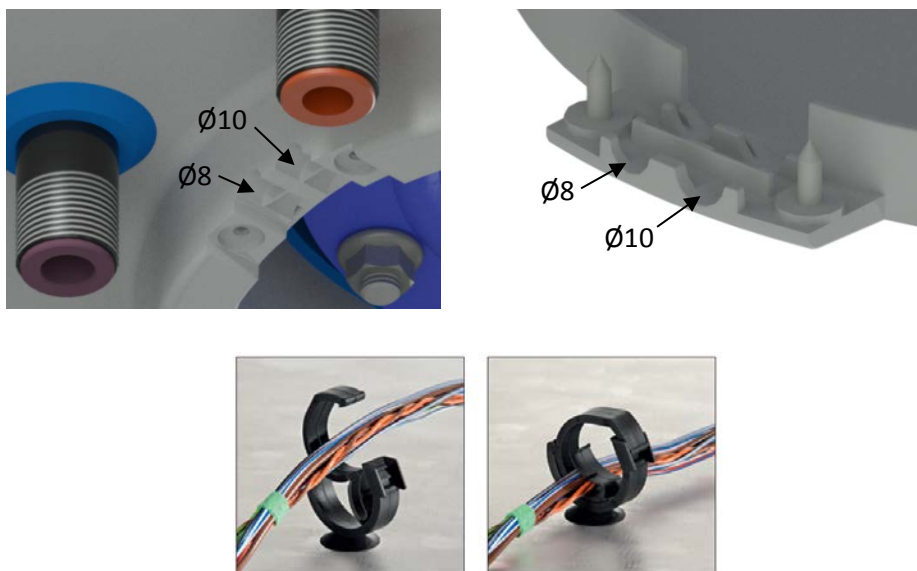
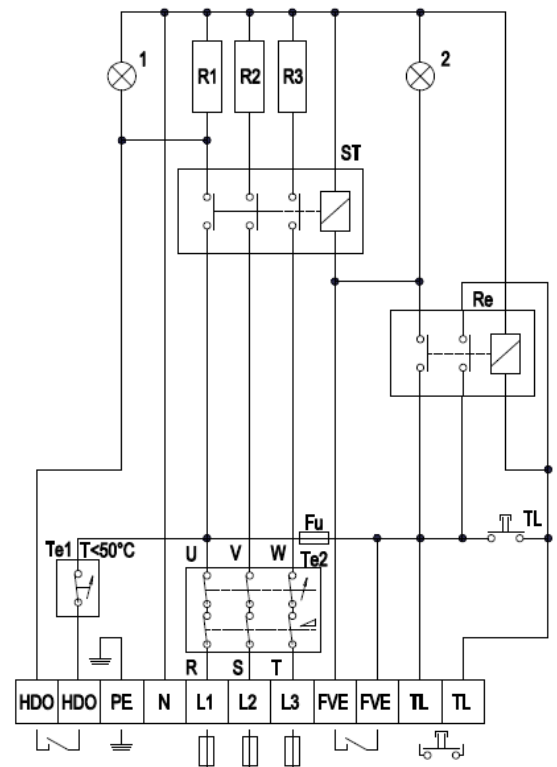

Figure 7
Figure 8
Execute the connection as indicated in the wiring diagram. Factory connection must not be changed! (Figure 8). In the electric wiring cabinet remove the partition corresponding with the input wire diameter of  $\varnothing 8$  or  $\varnothing 10$  (Figure 7). The degree of protection of electric parts of the heater is IP 44. Power input of electric element is  $3 \times 2200$  W. Use pre-installed brackets to hold the lead cable.
- The wiring diagram is also attached to the heater on the side of the electrical installation guard (Figure 8).